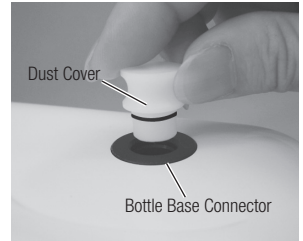

Fig.2
- 1) Remove the Dust Cover from the Bottle Base Connector. (Fig. 2)